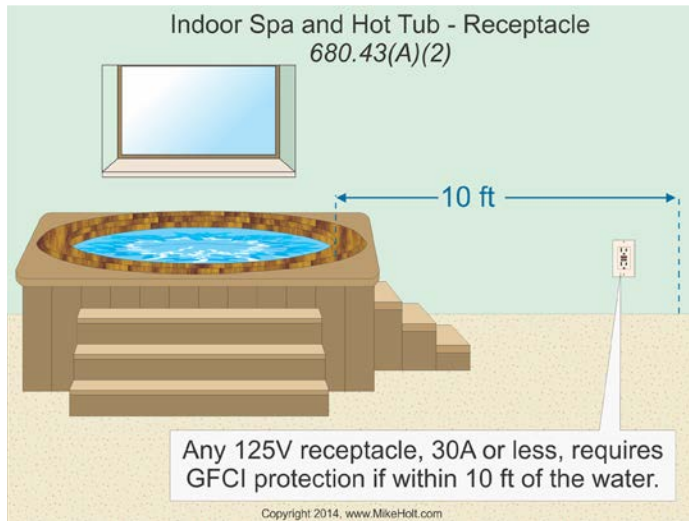

Figure 680–56
(1) Location. Other receptacles must be located not less than 6 ft, measured horizontally, from the inside walls of the indoor spa or hot tub.
(2) GFCI-Protected Receptacles. Receptacles rated 30A or less at 125V, located within 10 ft of the inside walls of an indoor spa or hot tub, must be GFCI protected. Figure 680–56